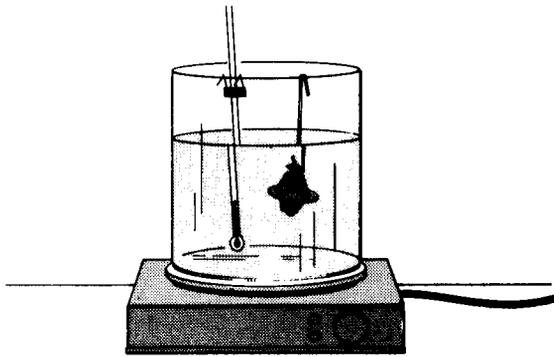

Figure 9-3
- Heat thermostat in hot water to check for correct operation. Thermostat should start to open at 181 degrees F (83 degrees C) and fully open at 203 degrees F (95 degrees C) (Figure 9-3).